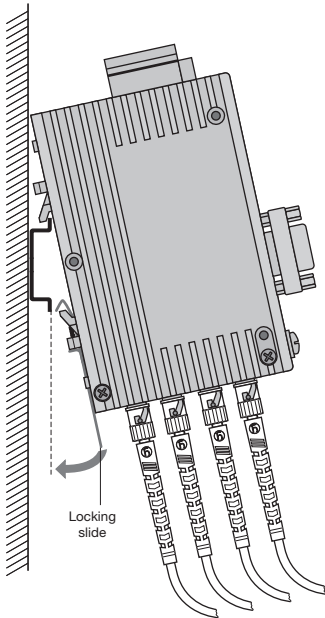

Fig. 9: Mounting repeater on DIN rail
- ▶ Engage the upper snap-in hooks of the repeater in the DIN rail and press the underside (as shown in Fig. 9) onto the rail until it engages.